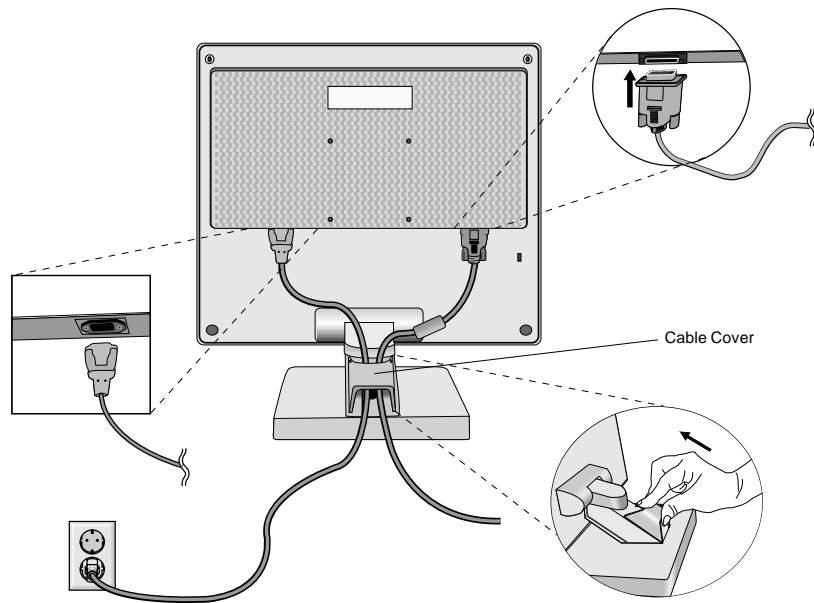

Figure C.1
4. Connect the 15-pin mini D-SUB of the video signal cable to the appropriate connector on the back of the monitor (**Figure C.1**).
5. Connect one end of the power cord to the LCD1501 monitor and the other end to the power outlet. Place the video signal cable and AC power cord under the cable cover (**Figure C.1**). Replace cable cover.